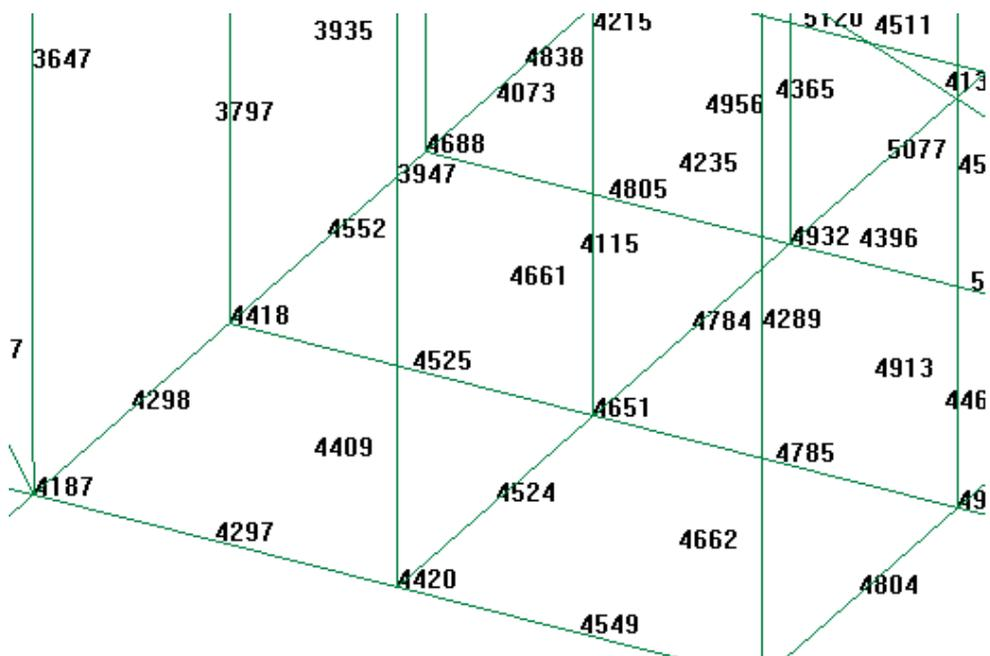

Figure 18. Each number identifies a node. There is a node at each vertex, at the midpoint of each edge and in the center of quadrilaterals and hexahedra.
- 12 Select **Label->All in->Points** (see Figure 18).